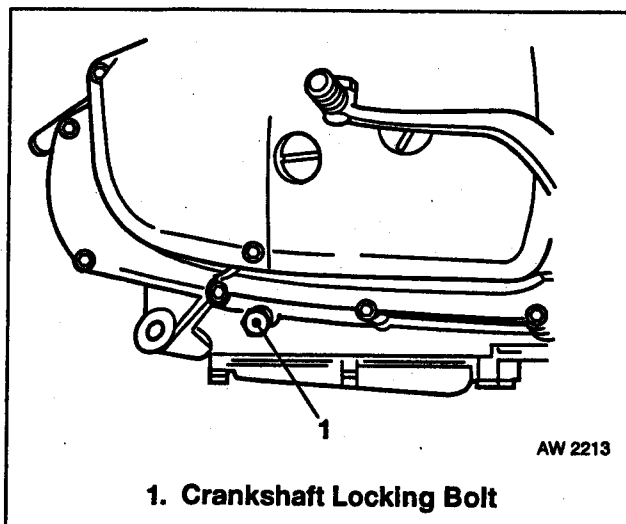

Fig 2.3 Crankshaft Locking
- a. Using the crankshaft locking bolt (P/N 241965) lock the crankshaft at TDC (Fig 2.3 refers).